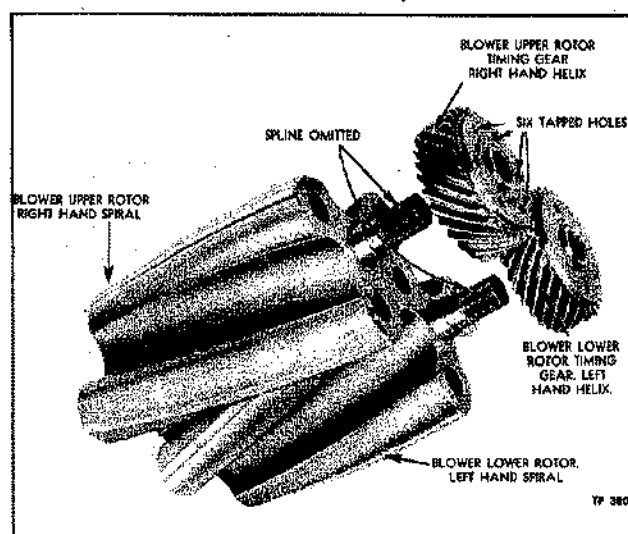

Figure 19—Relative Position of Upper and Lower Rotors and Gears
To avoid confusion when assembling, place the right-hand rotor and right-hand gear together on bench; likewise the left-hand rotor and gear, as shown in figure 19. With identification in mind, as outlined above proceed as follows:
1. Be sure that both rotor shafts with the omitted serrations, as shown in figure 19, point toward top of blower; that the gear with six tapped holes in hub, is located on the upper rotor shaft; and, if old parts are being reinstalled that original shims are placed on their respective shafts.
The three lobes on each blower rotor are spiral (helical) relative to the center line of the rotor shaft. The teeth on the timing gears are also helical, and, as previously stated, the rotor with the right-hand helical lobe is driven with a gear having right-hand helical teeth (fig. 19).